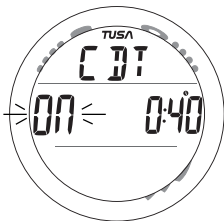

Fig. 105 - FREE DIVE ALT 1
**Free Dive ALT 1 (CDT)** information includes (Fig. 105) -